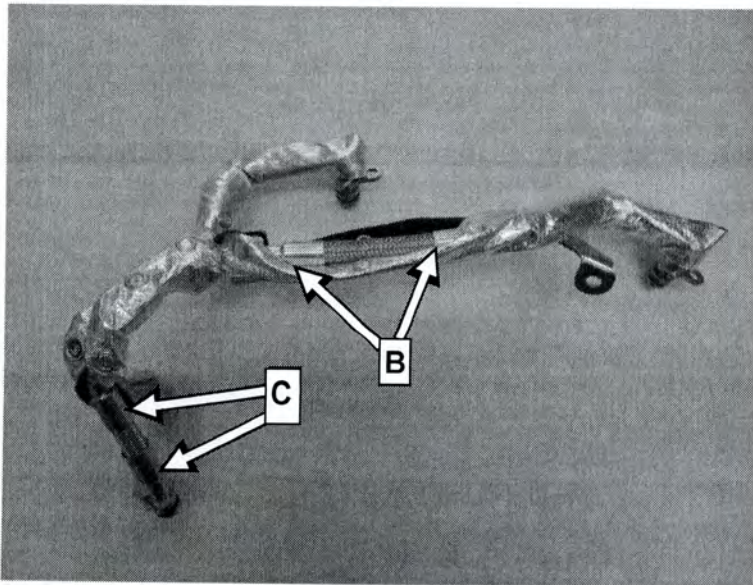
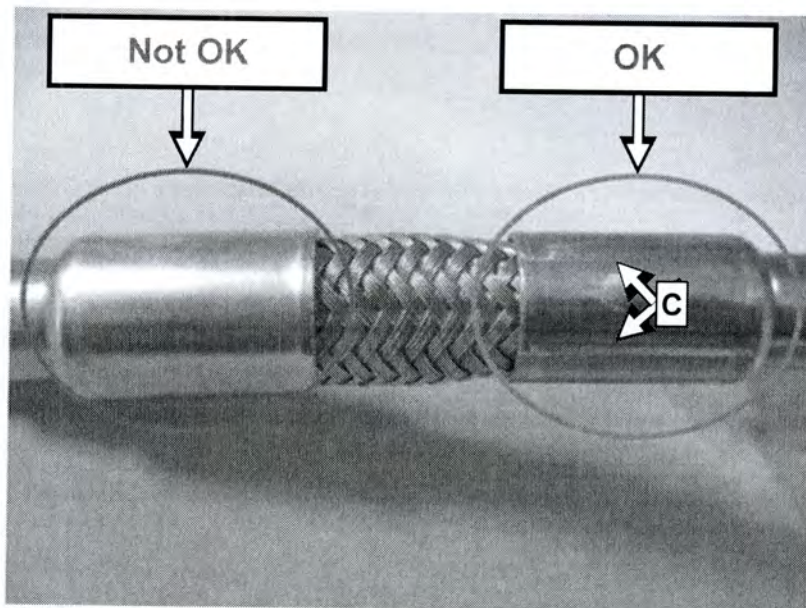

Figure 3
Figure 4 Grooves (C) present: OK
2. Check crimping (B, Figure 3) 4x: A properly performed crimping can be recognized by "grooves" (C, Figure 4, 5).
- If crimping is OK, grooves (C, Figure 4, 5) present: **Procedure is complete**
- If crimping is *not* OK, grooves (C, Figures 4, 5) **NOT** present: Proceed to step 3.